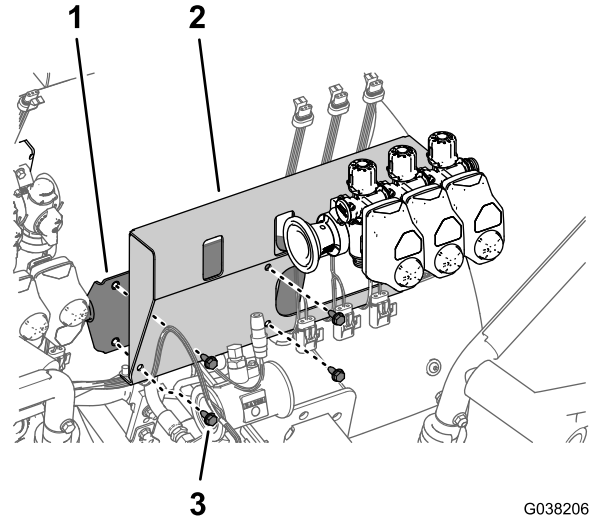

Figure 49
1. Align the 4 holes in the bracket for the section-valve with the 4 holes in the mount (Figure 49).
2. Assemble the bracket for the section valve to the bracket mount (Figure 49) with the 4 flange-head bolts (5/16 x 3/4 inch) that you removed in step 1 of Removing the Boom-Section Valves, Supply Hoses, and Section-Valve Mount (page 13).